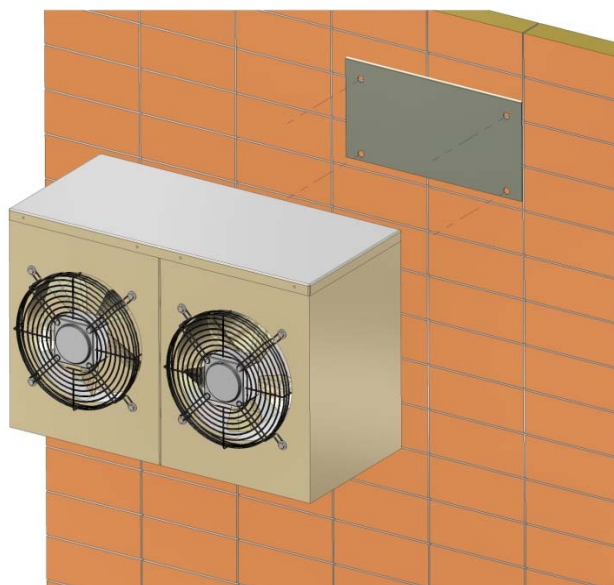

Fig. 4
| Fig. 4 - ASSEMBLY OF CONDENSING UNIT ON WALL .....                    | 13 |
Energize the system by acting on the compressor switch ① shown in FIG. 4.